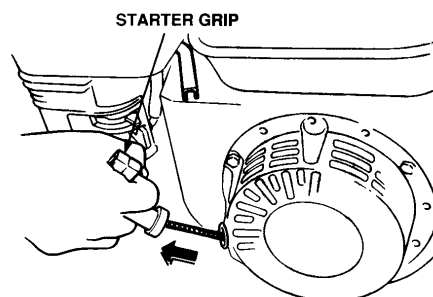

Figure 16. Starter Grip
8. Grasp the starter grip (Figure 16) and slowly pull it out. The resistance becomes the hardest at a certain position, corresponding to the compression point. Pull the starter grip briskly and smoothly for starting.